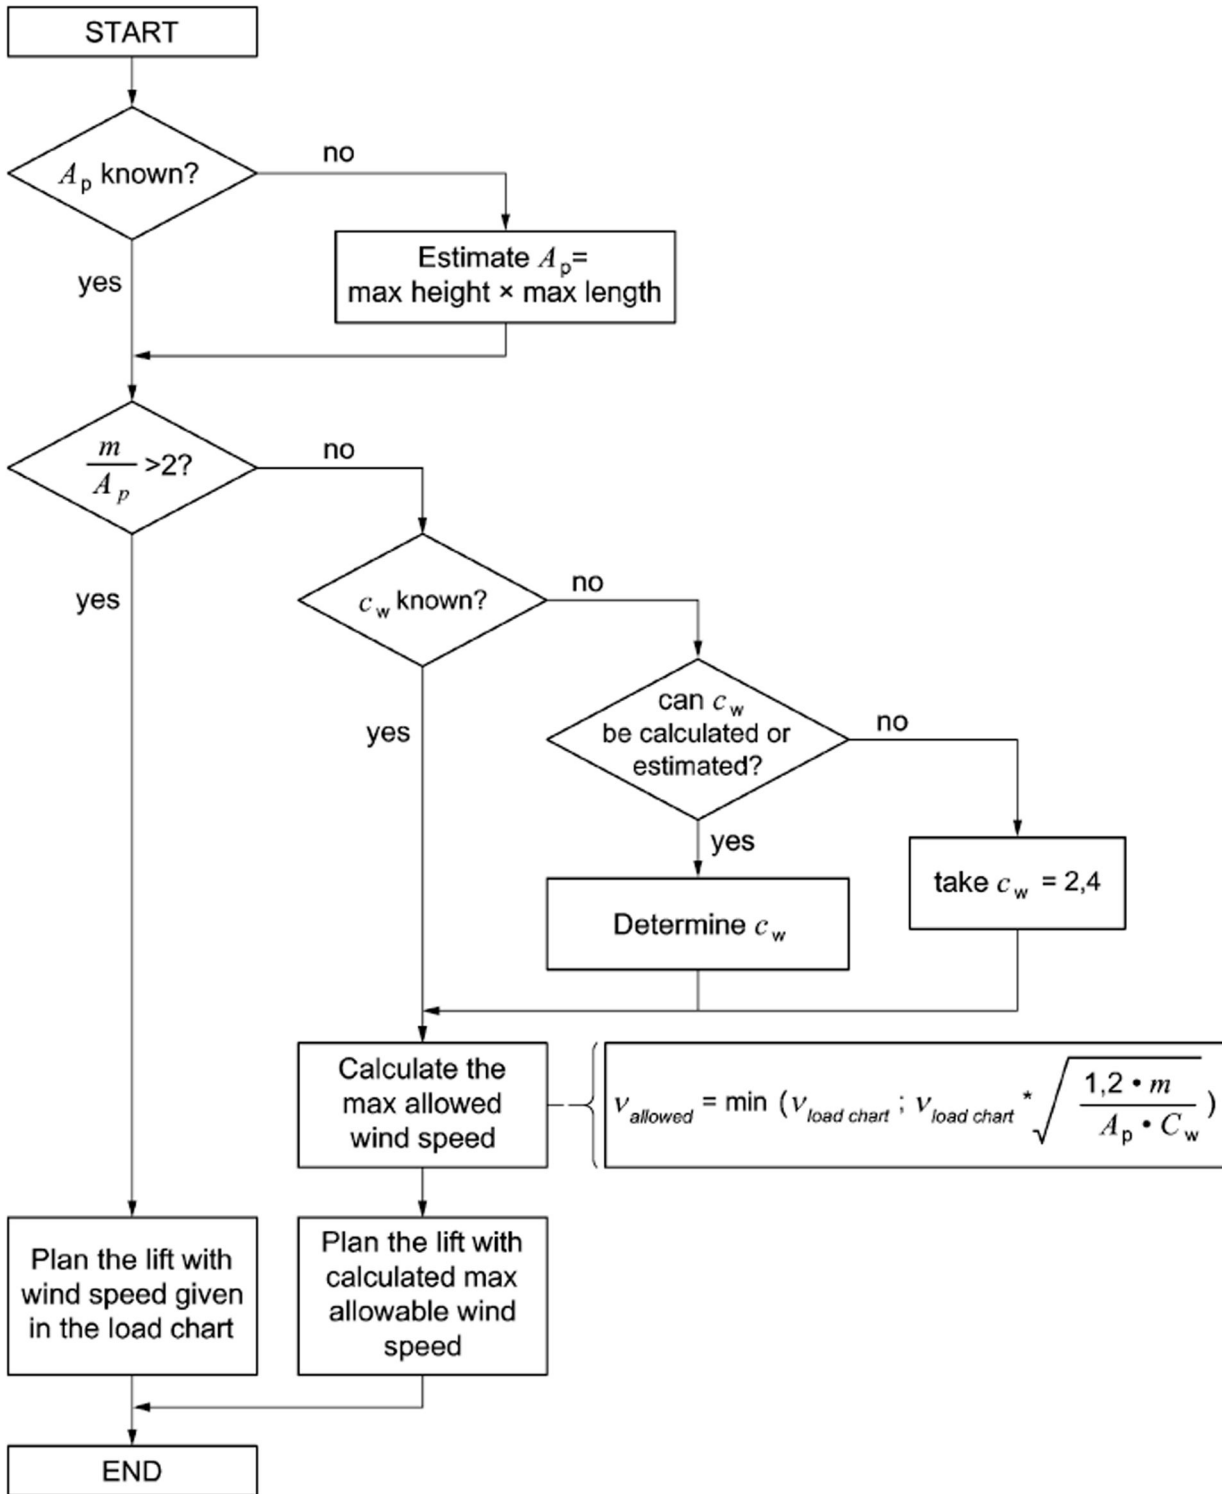

Fig. 724: Simplified method to determine the maximum admissible wind speed in accordance with EN 13000 Appendix N
- ▶ Note that the area exposed to wind of the load considered in the load calculation is $1.2 \text{ m}^2/\text{t}$ (cw value as factor already considered). If the load's area that is exposed to wind is larger: Calculate maximum permissible wind speed (see: fig. 724, page 594) or contact Liebherr customer service. Loads may not be picked up until this evaluation has been performed.